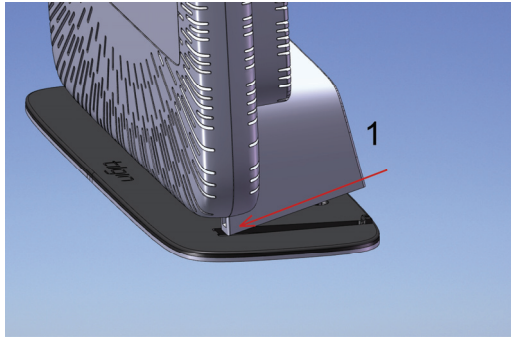

Fig. 1
4. Place the device on the foot stand/wall bracket on the slot Fig 1